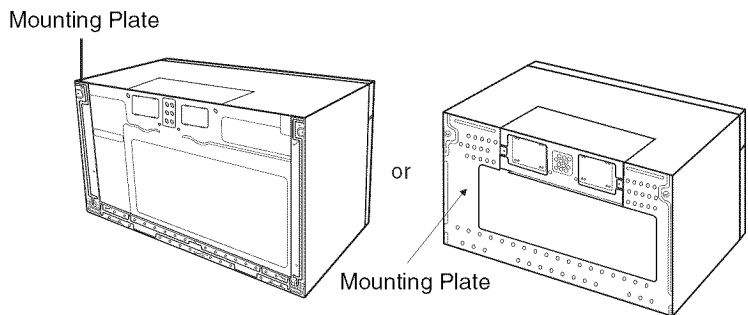

Figure 2
- Mounting plate is located on back side of microwave oven. See **Figure 2**.